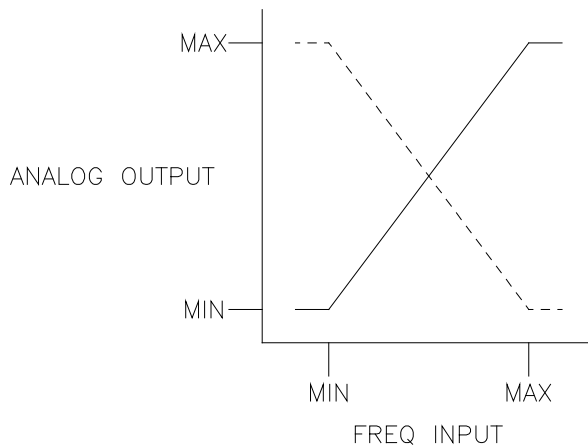

Figure 3: Analog Output Slope
- The FTV220-000 is capable of producing an analog output with either a positive or negative slope (refer to Figure 3). A positive slope (solid line) is obtained by teaching the minimum frequency first, followed by the maximum frequency. A negative slope (dashed line) is obtained by teaching the maximum frequency first, followed by the minimum frequency.